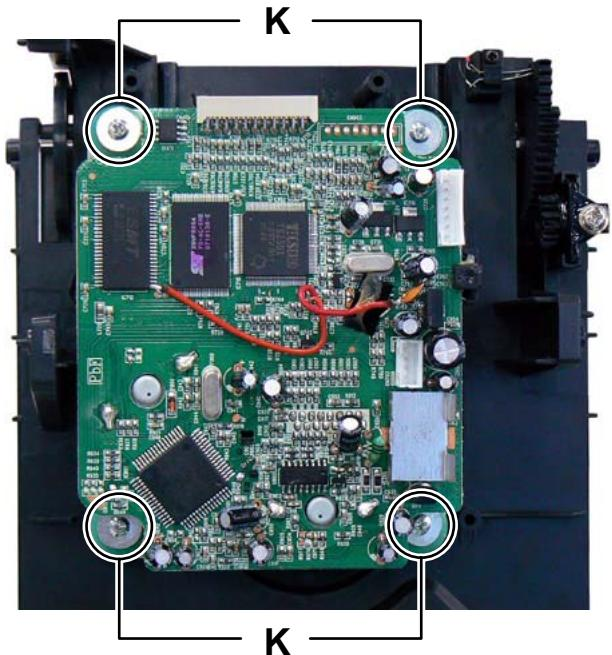

Fig.14
3.1.6 Removing the CD MECHANISM assembly (See Fig.14)